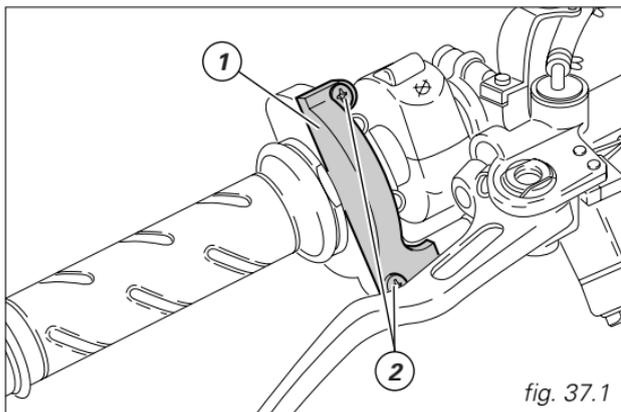

fig. 37.1
For the throttle cable, it is best to remove the cover (1, fig. 37.1, page 51) by unscrewing the two fastening screws (2) and then grease the cable end and the pulley.